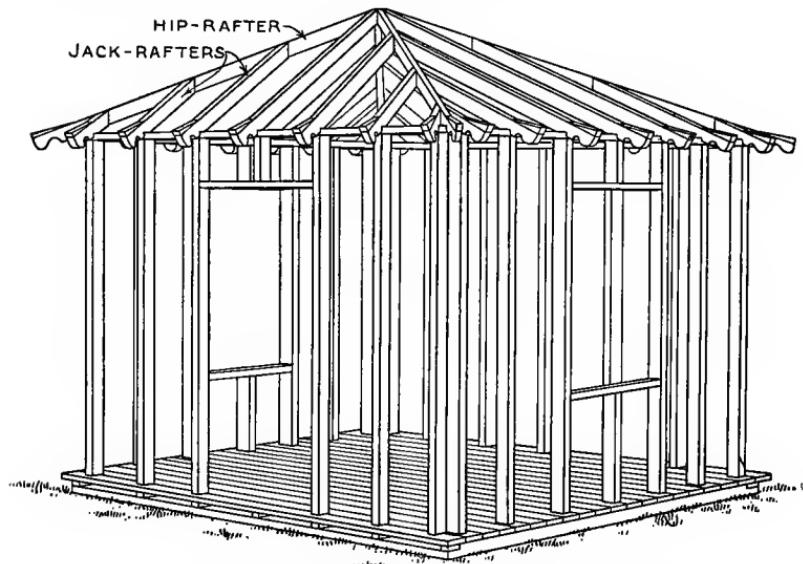

FIG. 28. — The Framework of the Workshop Shown in Fig. 27.
**The Wall Construction** of this building and that of the workshop with the gable-roof is at the corners (Fig. 28),
taken as the *span*. The upper ends of the shorter jack-rafters can be located upon the hip-rafters, after the latter have been spiked in position, and the proper length and bevels can then be determined easily. The eave end of each rafter is curved to make it ornamental, and is blocked up on top with a triangular strip, to give a slight *kick-up* to the roof. This is shown in Fig. 28, and in the larger detail drawing, Fig. 29. The roof boarding must be beveled at the hip ends, and the shingles must be, also. Then a strip of tin or galvanized iron must be nailed over each hip, from the peak of the roof down to the eaves, to cover the joints between the shingles and make the roof tight. Paint this metal *flashing* with red-lead upon both sides, to prevent it from rusting.